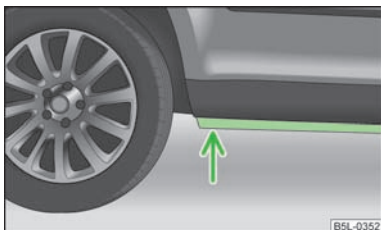

Fig. 157
- Therefore determine the depth of the water before driving through bodies of water. The water level must not exceed the web on the lower sill » Fig. 157,